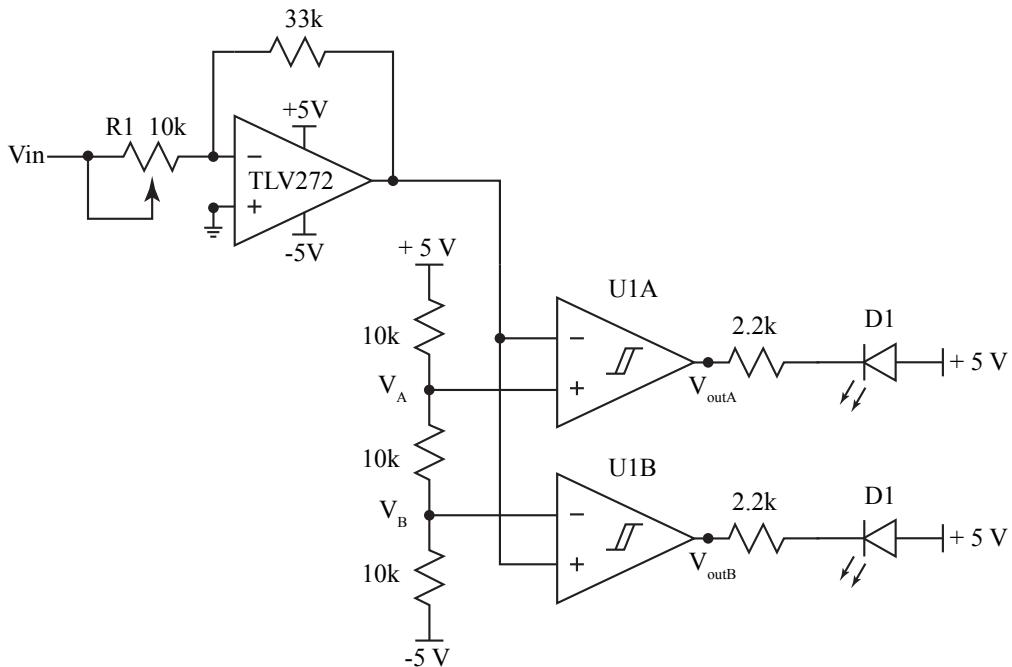

Figure 8.7: A variable gain amplifier, R1 is a potentiometer that can be varied, where the output is checked for clipping.
- Build the circuit in Figure 8.7. Power the LM393 and TLV272 with +/-5 V. Set the input voltage to a 1kHz, 0.1 V amplitude sine wave and run a transient solution with a stop time of 2m. Choose the value for R1, 10k pot, so that the diodes conduct current and illuminate. Plot the input voltage, output of the op amp, positive and negative inputs to the comparator, and the current through both LEDs. (6 items total). Save an image of the circuit and the plot for submission to canvas.